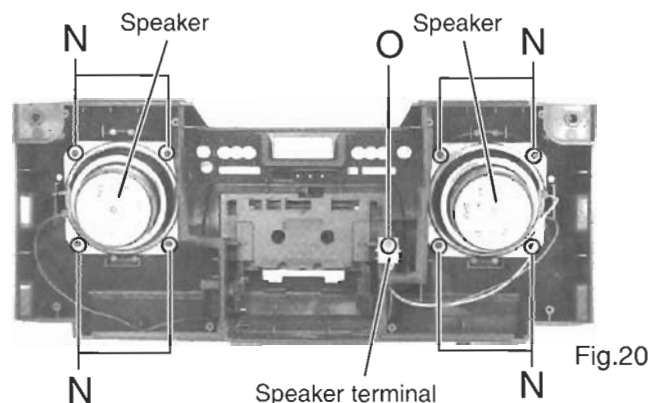

Fig.20
■ Removing the Speakers (See Fig.20)